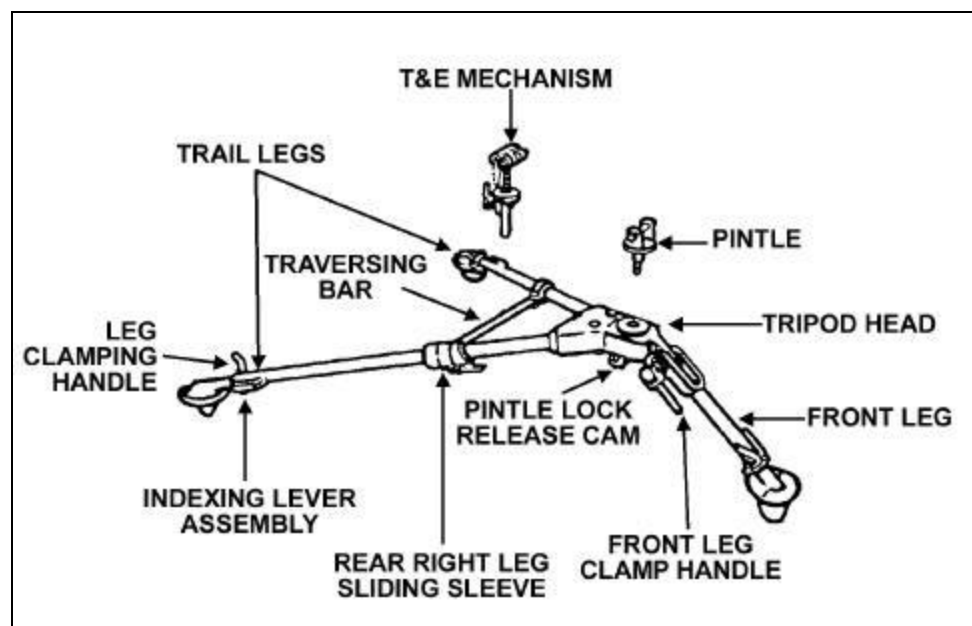

Figure 1-6. M3 tripod mount.
a. **Tripod Mount, M3.** The M3 mount is the standard ground mount of the caliber .50 machine gun (Figure 1-6). It is a folding tripod with three, telescopic, tubular legs connected at the tripod head. Each leg ends in a metal shoe that can be stamped into the ground for greater stability. The two trail legs are joined together by the traversing bar. The traversing bar serves as a support for the traversing and elevating mechanism, which in turn supports the rear of the gun. The tripod head furnishes a front support for the mounted gun that is further supported by the short front leg. When the tripod is emplaced on flat terrain with all extensions closed, the adjustable front leg should form an angle of about 60 degrees with the ground. This places the gun on a low mount about 12 inches above the ground. To raise the tripod farther off the ground, extend the telescopic front and trail legs enough to keep the tripod level and maintain the stability of the mount.